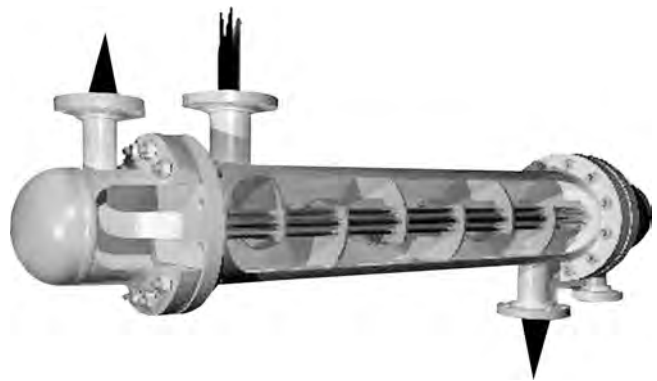

FIGURE 10.18 Photograph of a cutaway of a baffled shell and tube heat exchanger.
- Figure 10.18 is a cut section view of a baffled shell and tube heat exchanger.